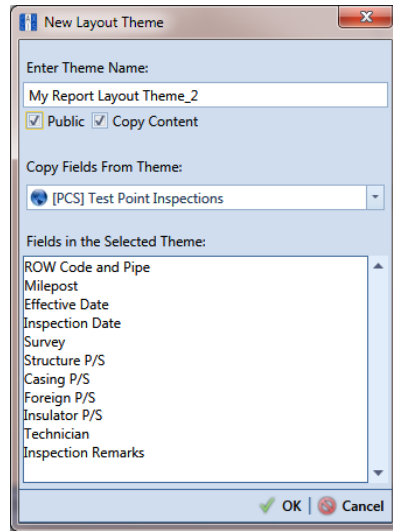

Figure 15-31. New Layout Theme
- 4 Click  **Add** to open the *New Layout Theme* dialog box (Figure 15-31).